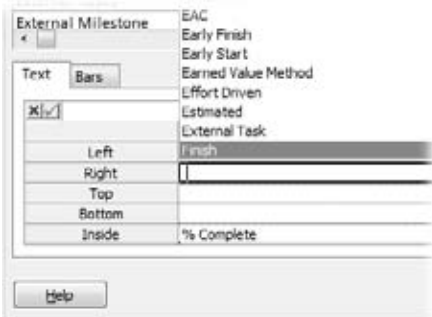

Figure 23-7:
4. Select a position box, like **Right** for the finish date. Click the down arrow, and then choose the field to display at that position, as shown in Figure 23-7.